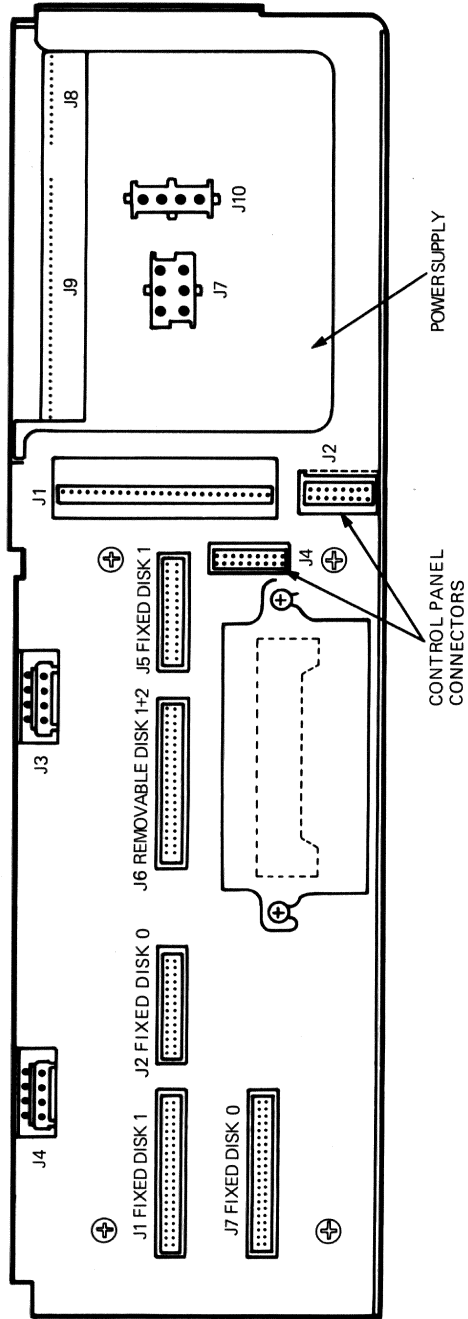

Figure 1-8 Signal Distribution Panel and Power Connections
- BA23-A mass storage signal distribution panel (Figure 1-8)
At its front the power supply has four connectors. (Figure 1-8)